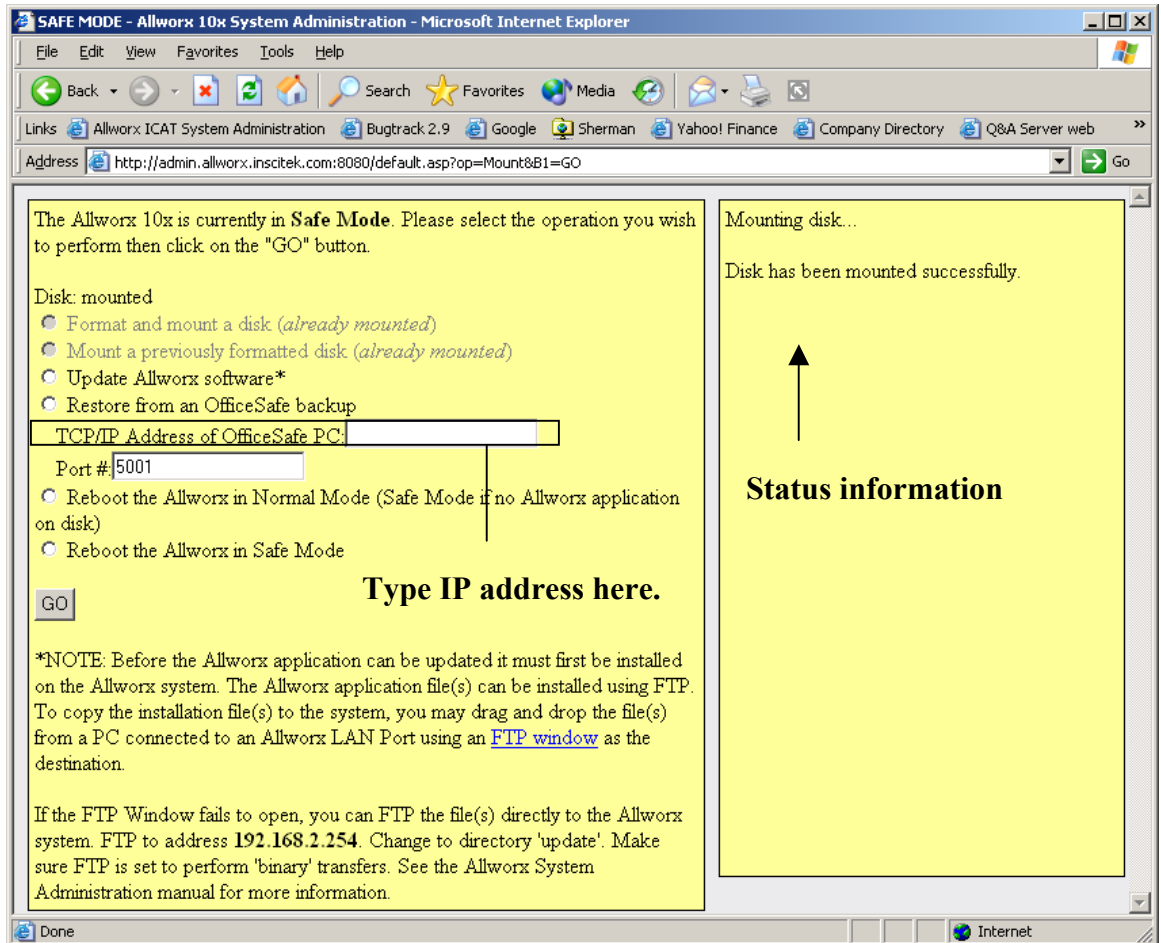

Figure 8-4 –Safe Mode Window after Disk Mounting
17. Click OK. Disk mounting will begin with status of the process displayed in the right Status pane of the Safe Mode window. New options will appear in the left pane (Figure 8-4).
20. Type the IP address into the field TCP/IP Address of OfficeSafe PC (Figure 8-4).